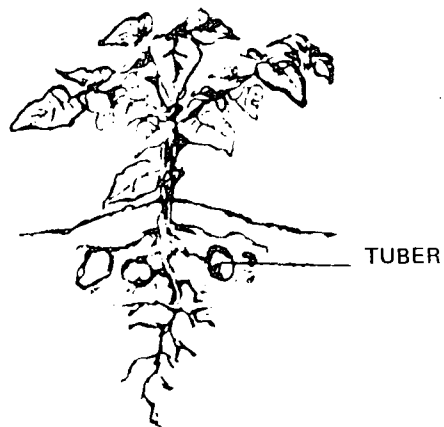

Fig. 2
*Tubers*, or storage underground stems with buds reproduce the original plant. e.g. potato (Fig. 2).